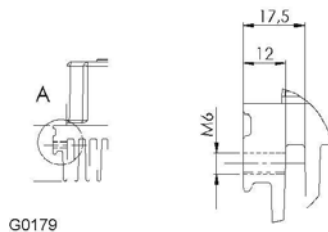

Figure 8. Calculate bolt length for mounting finned heatsink.
- Four (4) bolt M6S M6 x yy 8.8 fzb (yy mm see Figure 8) internal hex head bolts (pos 1).
- Four (4) washer BRB 6.4 HB 200 fzb (12 x 6.4 x 1.6) (pos 2).
- Two (2) mounting brackets, OEM supplied.